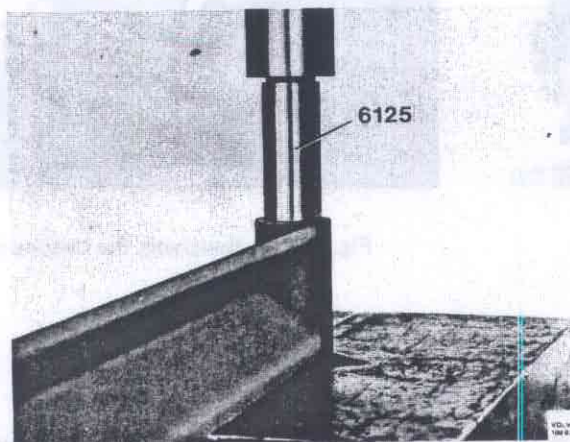

Fig. 76–4. Pressing out the bushing
2. Place the reaction rod in a press and press out the bushings with drift 6125, see Fig. 76–4.